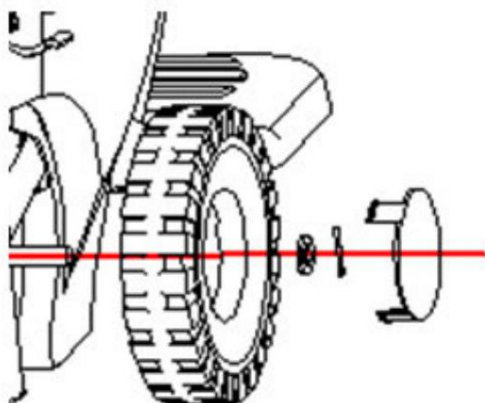

Fig. 4-3: Assembly of the wheels
3. Mount the wheels on the axles, insert washers and cotter pins, bend the ends of the cotter pins over, and attach the hubcaps. Repeat the process for the second wheel (Fig. 4-3).